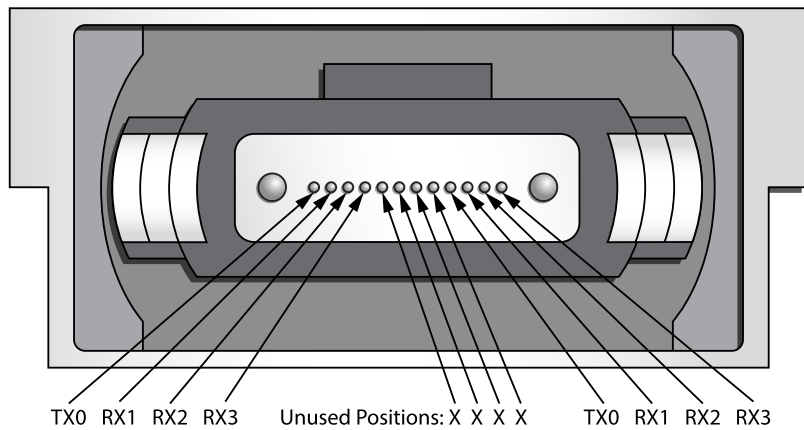

Figure 3. Outside View of the QSFP28 Module MPO Receptacle
2. VccRx, Vcc1 and VccTx are the receiver and transmitter power suppliers and shall be applied concurrently. Recommended host board power supply filtering is shown in Figure 3 below. Vcc Rx, Vcc1 and VccTx may be internally connected within the QSFP28 transceiver module in any combination. The connector pins are each rated for a maximum current of 1000mA.
Figure 3 shows the orientation of the multi-mode fiber facets of the optical connector.